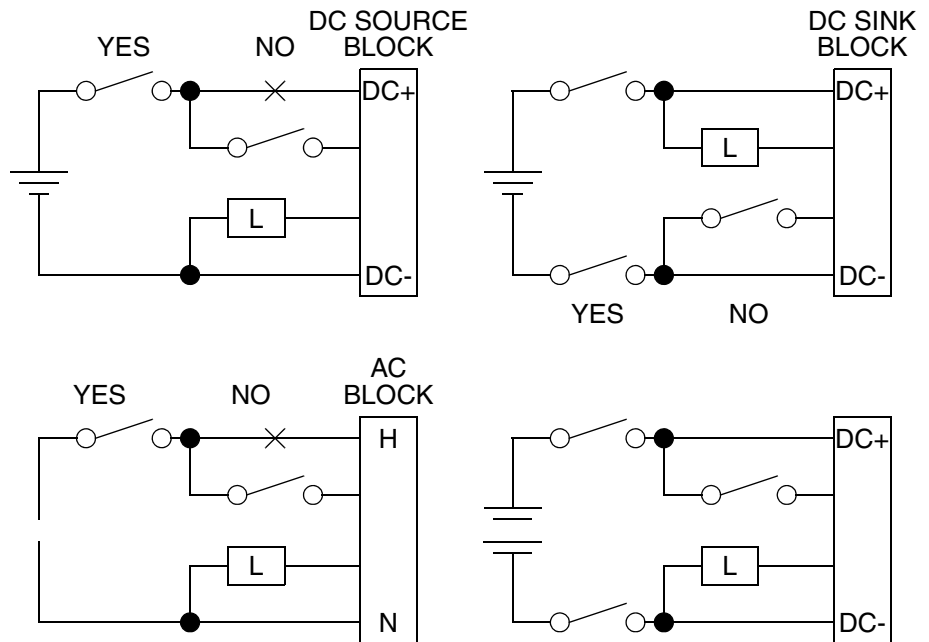

Figure 11. Block Power Disconnects
When power for a block comes from the same source that supplies its field I/O, care must be taken when designing a block power disconnect. Block power and input power should be removed at the same time. Figure 11 shows the correct (YES) and incorrect (NO) position for switches. If these techniques are not followed, the block may power up when multiple inputs are activated even though one leg of the power has been disconnected from the block. With dc blocks, either the positive or negative line can be switched. Normal practice is to switch the ungrounded line.